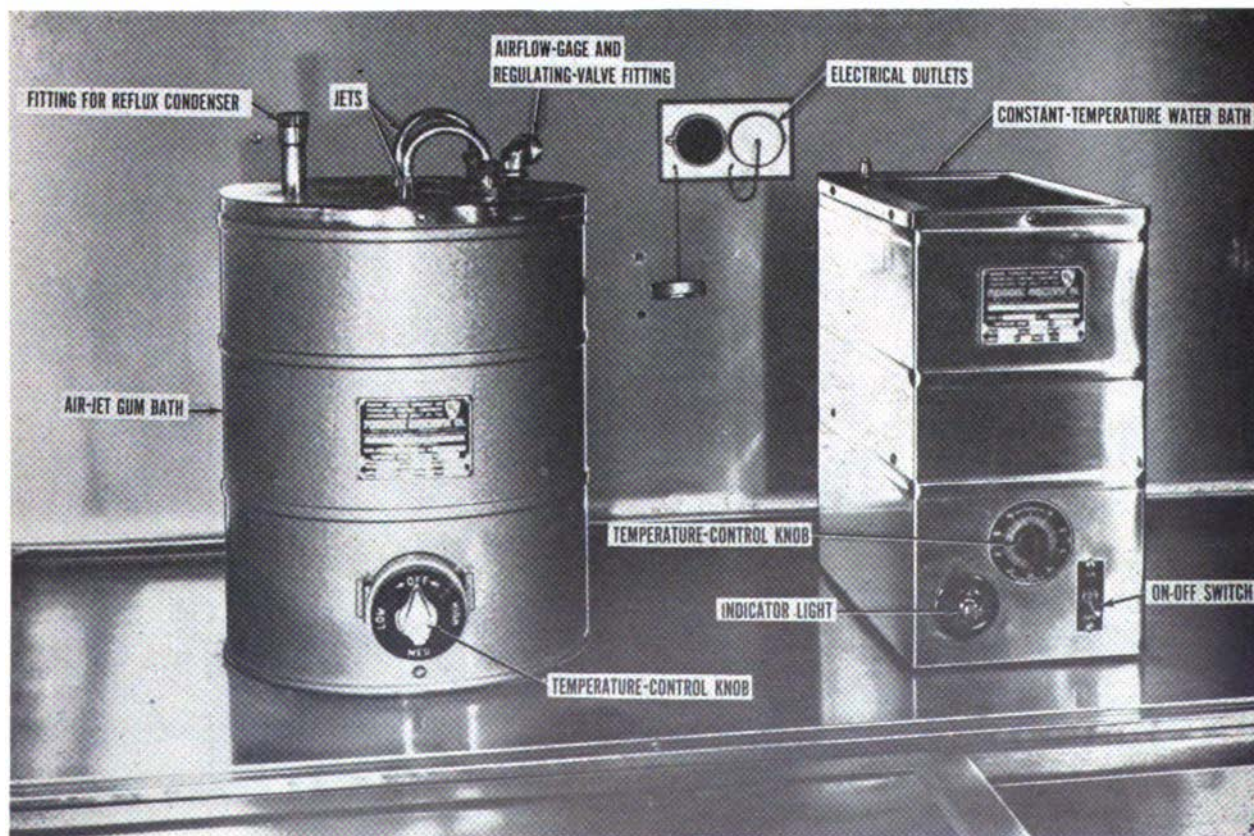

Figure 48. Air-jet gum bath, and constant-temperature bath.
- (6) When oven has reached desired temperature, turn temperature-control knob counterclockwise until heat shuts off, as indicated by pilot lamp going out.
- (7) Before final temperature adjustment can be made, allow about an hour for oven heat to stabilize. If, after elapsed time, temperature is not at desired degree, turn temperature-control knob to raise or lower temperature as required until desired temperature is attained.
a. Description. The air-jet gum bath (fig. 48), used to determine preformed gum in pe-
- (8) For detailed descriptions of test procedures using the air-jet gum bath, consult applicable petroleum testing references.
a. Description. The constant-temperature water bath (fig. 48), used to maintain water at constant temperature for test procedures, is located in the fume-hood cabinet. The bath is constructed of stainless steel and houses a 300-watt heater, thermostat, thermoregulator,